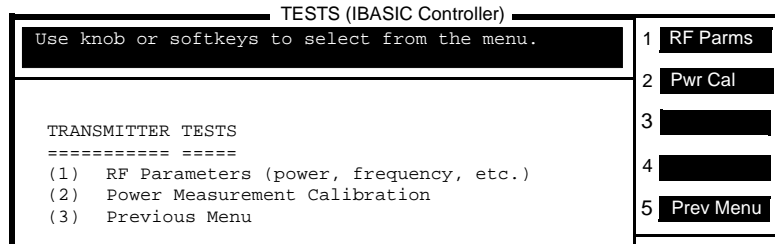

Figure 58
- a. From the MAIN MENU, select (1) **Transmitter Tests**. The TRAMSMITTER TESTS menu appears, see figure 58.